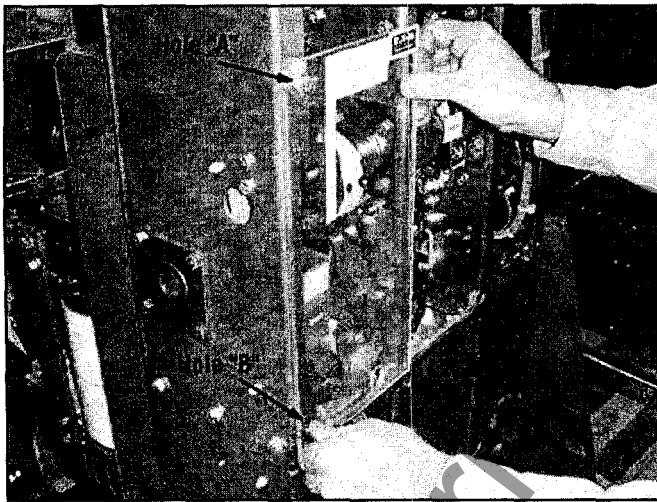

Figure 6-8 Attaching CloSure™ Test Tool at Hole "A" & "B"
**Step 5** - Mount the transparent CloSure™ Test Tool with two bolts and washers. Refer to Figure 6-8 and Table 6.2 for appropriate mounting holes. Hand tighten the bolts (Figure 6-8).